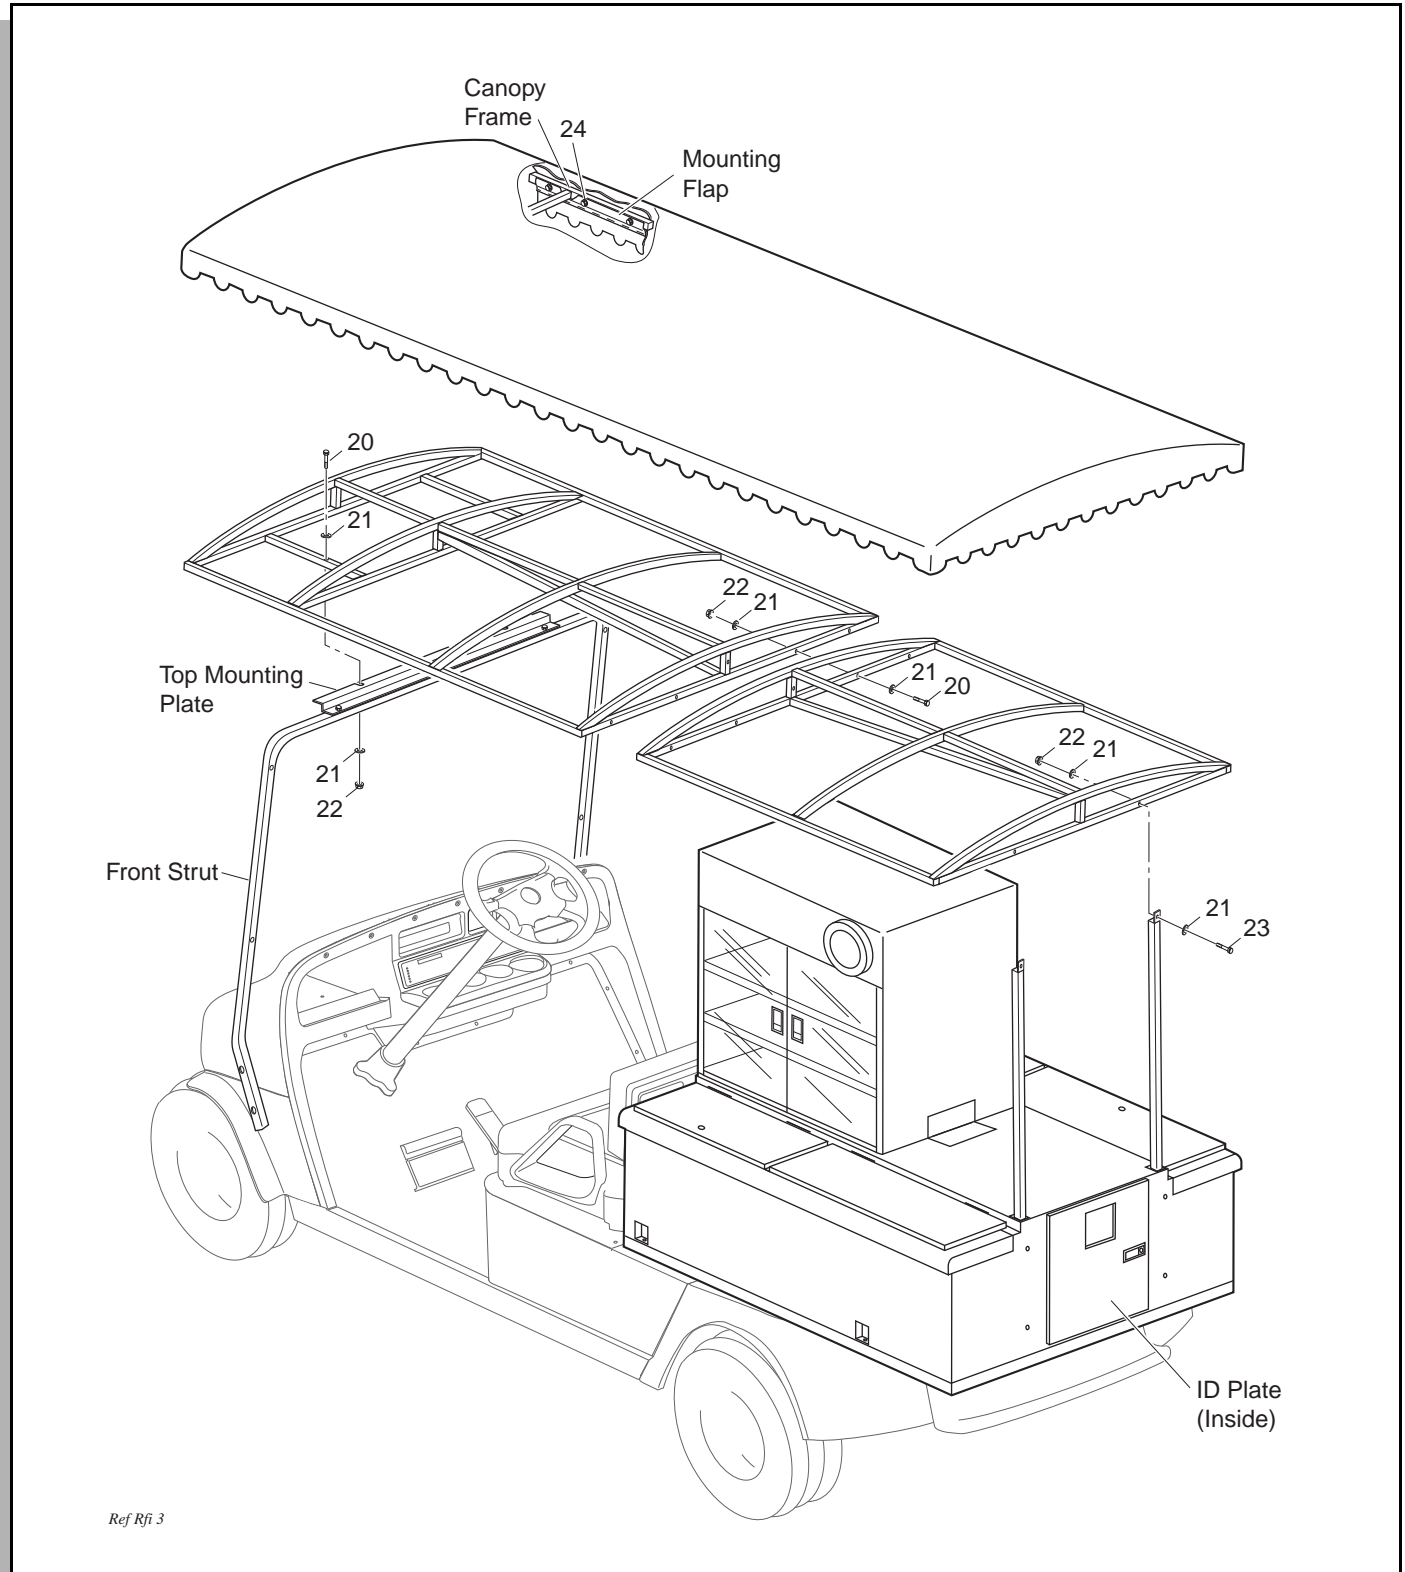

Fig. 3 Canopy Installation
Orient the two canopy frame sections end to end aligning five existing mounting holes as shown (Ref Fig. 3 on page 4) and fasten together with five 1/4 - 20 X 2" bolts (item 26), ten 1/4" flat washers (item 27) and five 1/4 - 20 lock nuts (item 28). Orient the assembled canopy frame as shown and rest front of frame on top mounting plate and rear of frame on refreshment unit struts. Secure canopy frame to refreshment unit struts with two 1/4 - 20 X 1
Wipe canopy frame with a clean cloth. Unfold canopy and locate clearance openings in the mounting flap. Drape canopy over frame and orient canopy on frame so that clearance openings match strut attachment points and canopy frame juncture (Ref Fig. 3 on page 4). With the aid of assistants, pull canopy taut over canopy frame. Fold mounting flap up inside canopy frame as shown. Secure each mounting flap to inner surface of canopy frame with #10 X 1/2" self tapping screws (item 35) evenly spaced approximately 9" apart as shown. To prevent "gathering" of canopy material during installation, use the aid of assistants to hold the canopy taut while securing to canopy frame. For best results, begin securing the canopy at the middle of each side and proceed to each end of frame.